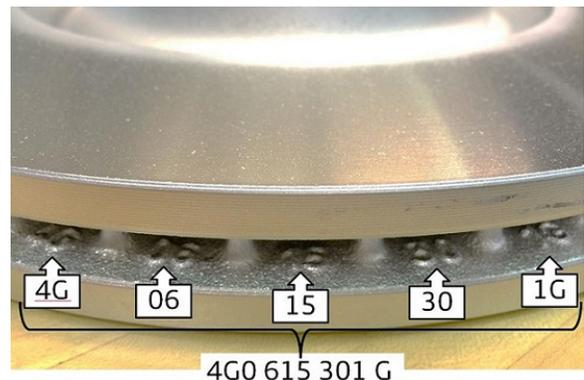

Figure 3. Front brake disc part number location.
- Check the part number on the front discs. If part number is *not* 4G0615301G, install 4G0615301G or 4G0615301Q front discs, or any supersession available in ETKA. (Figure 3).